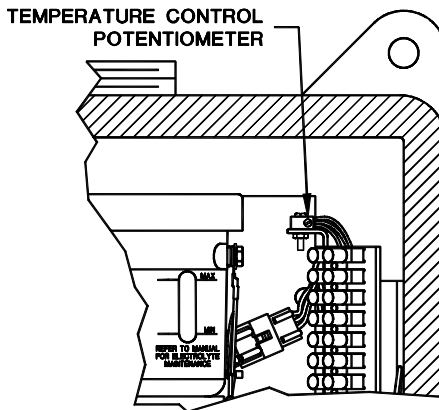

Figure 16: Enclosure Temperature Control
- 4) Locate the temperature control potentiometer on the circuit board in the enclosure above the terminal strip. See Figure 16 Turn it clockwise to increase the temperature and counter-clockwise to decrease it. After each adjustment re-cover the enclosure and allow at least an hour for it to stabilize at the new temperature.